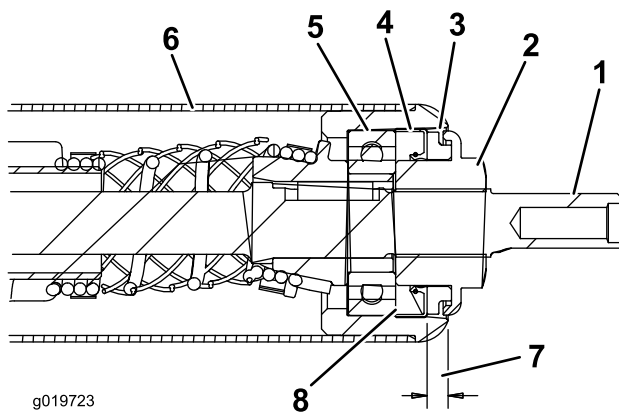

Figure 7
1. Place the roller shaft assembly into the roller (Figure 7).
- Position a new bearing onto each end of the roller shaft and push until the bearings are seated into each end of the roller (Figure 7).
- Position a seal installation tool on the bearing locknuts (Figure 7).
- Carefully install the seals onto the bearing locknuts. Pack the back of the seal 75 to 90% full with #2 grease (Figure 7).
- Install a nut with a seal and the installation tool onto each end of the roller shaft. Tighten the nuts until they bottom against the bearings (Figure 7). Remove the nuts and installation tool from the roller shaft. Remove the installation tool from the bearing nut.